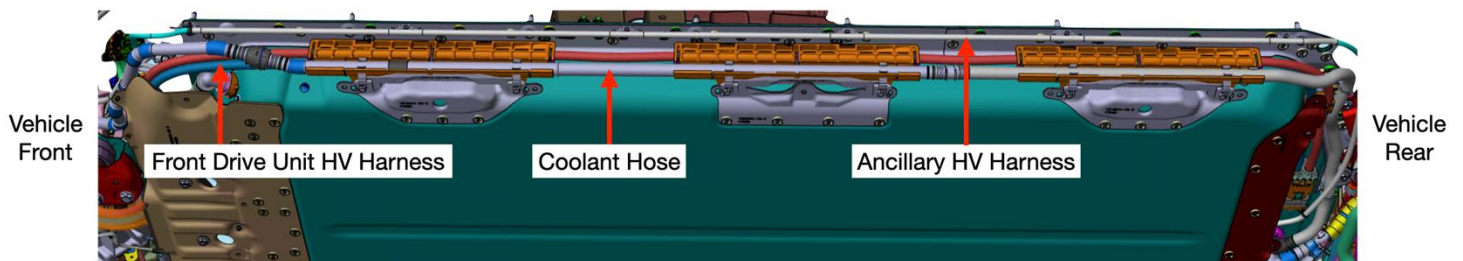

Figure 13 – Left side of HV battery
2. Remove the rocker cover(s) and inspect the HV cables and/or coolant hoses thoroughly (Figures 13 and 14).